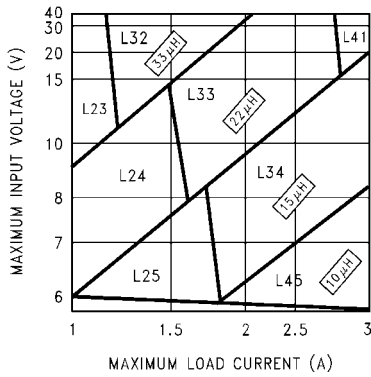
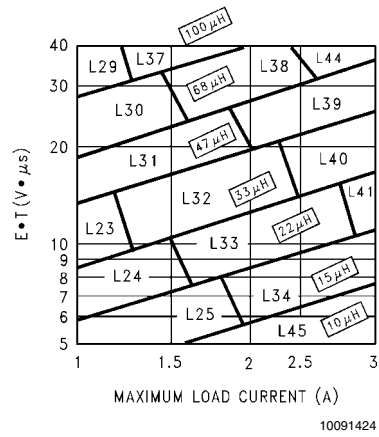

FIGURE 3. LM2676-3.3
FIGURE 6. LM2676-ADJ
Step 3: Determine the inductor required by using one of the four nomographs, *Figure 3* through *Figure 6*. Table 1 provides a specific manufacturer and part number for the inductor.
Step 5: Determine an input capacitor from Table 4 for fixed output voltage applications. Use Table 2 to find the specific capacitor type. For adjustable output circuits select a capacitor from Table 2 with a sufficient working voltage (WV) rating greater than $V_{in\ max}$, and an rms current rating greater than one-half the maximum load current (2 or more capacitors in parallel may be required).
Step 3: Use the nomograph for the 3.3V device, *Figure 3*. The intersection of the 16V horizontal line ($V_{in\ max}$) and the 2.5A vertical line ($I_{load\ max}$) indicates that L33, a 22 μ H inductor, is required.
Step 3: To use the nomograph for the adjustable device, *Figure 6*, requires a calculation of the inductor Volt \cdot microsecond constant ($E \cdot T$ expressed in $V \cdot \mu s$) from the following formula:
Using *Figure 6*, the intersection of 27V \cdot μ s horizontally and the 2A vertical line ($I_{load\ max}$) indicates that L38, a 68 μ H inductor, should be used.
Important Note: When using the adjustable device in low voltage applications (less than 3V output), if the nomograph, Figure 6, selects an inductance of 22 μ H or less, Table 6 does not provide an output capacitor solution. With these conditions the number of output capacitors required for stable operation becomes impractical. It is recommended to use either a 33 μ H or 47 μ H inductor and the output capacitors from Table 6.